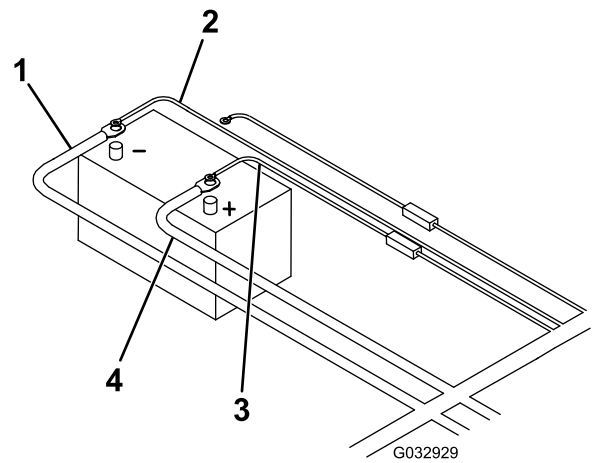

Figure 23
23. Connect the black power/ground cable to the negative (-) battery terminal (Figure 23).
24. Connect the brown wire to the negative (-) battery terminal (Figure 23).
25. Connect the free end of the battery cable to the positive (+) battery terminal (Figure 23).
26. Connect the red, fused wire and the red/white fused wire to the positive (+) battery terminal (Figure 23).